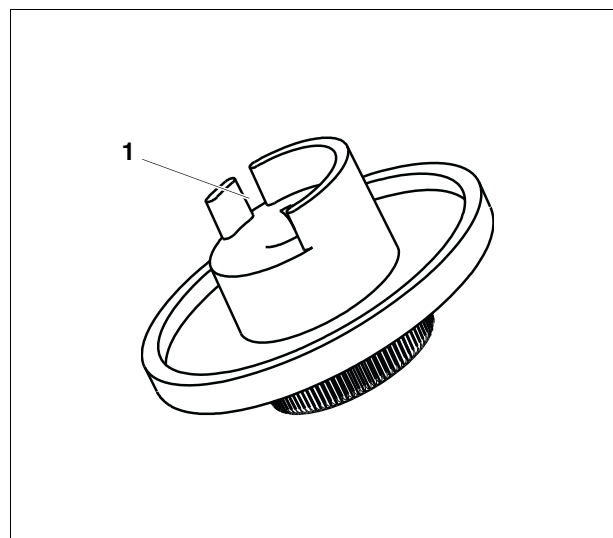

Fig. 4 Adjustment knob
- Break off end stop tabs (→ Fig 4, [1]).